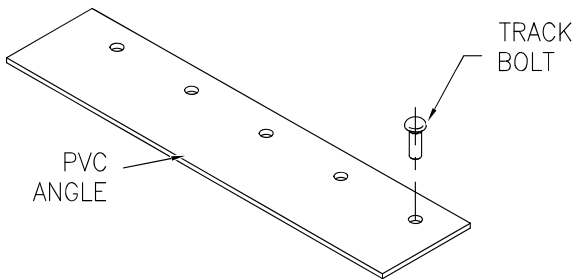

FIG. 2
- a. Insert track bolts into PVC flat bar holes (Fig. 2).